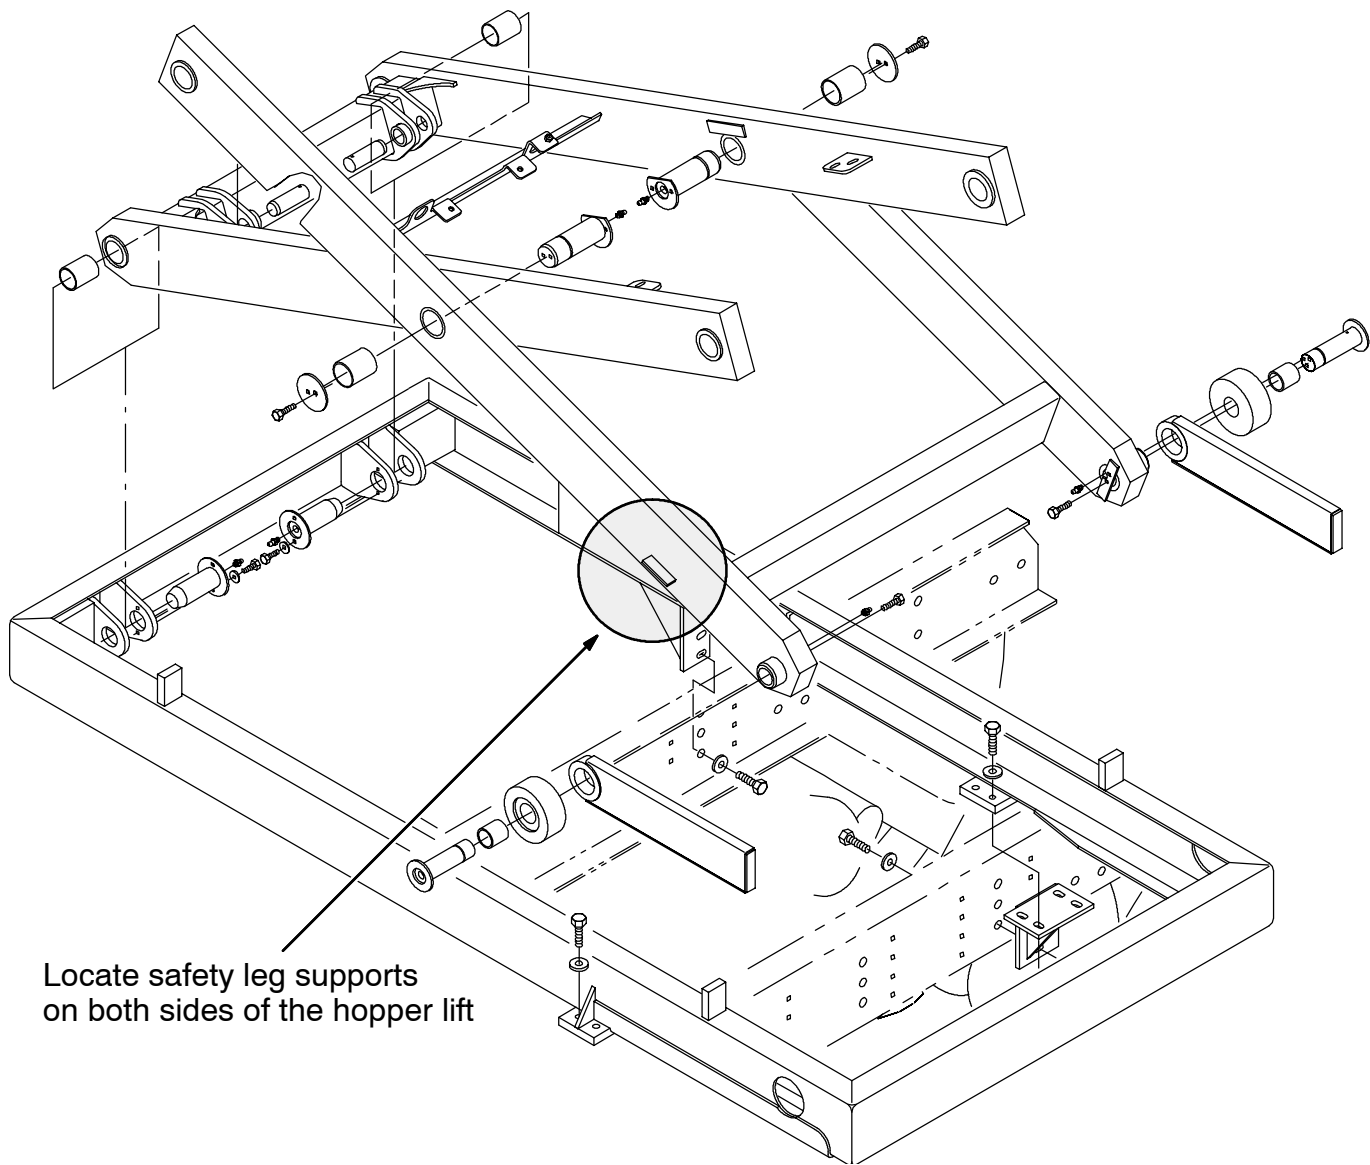
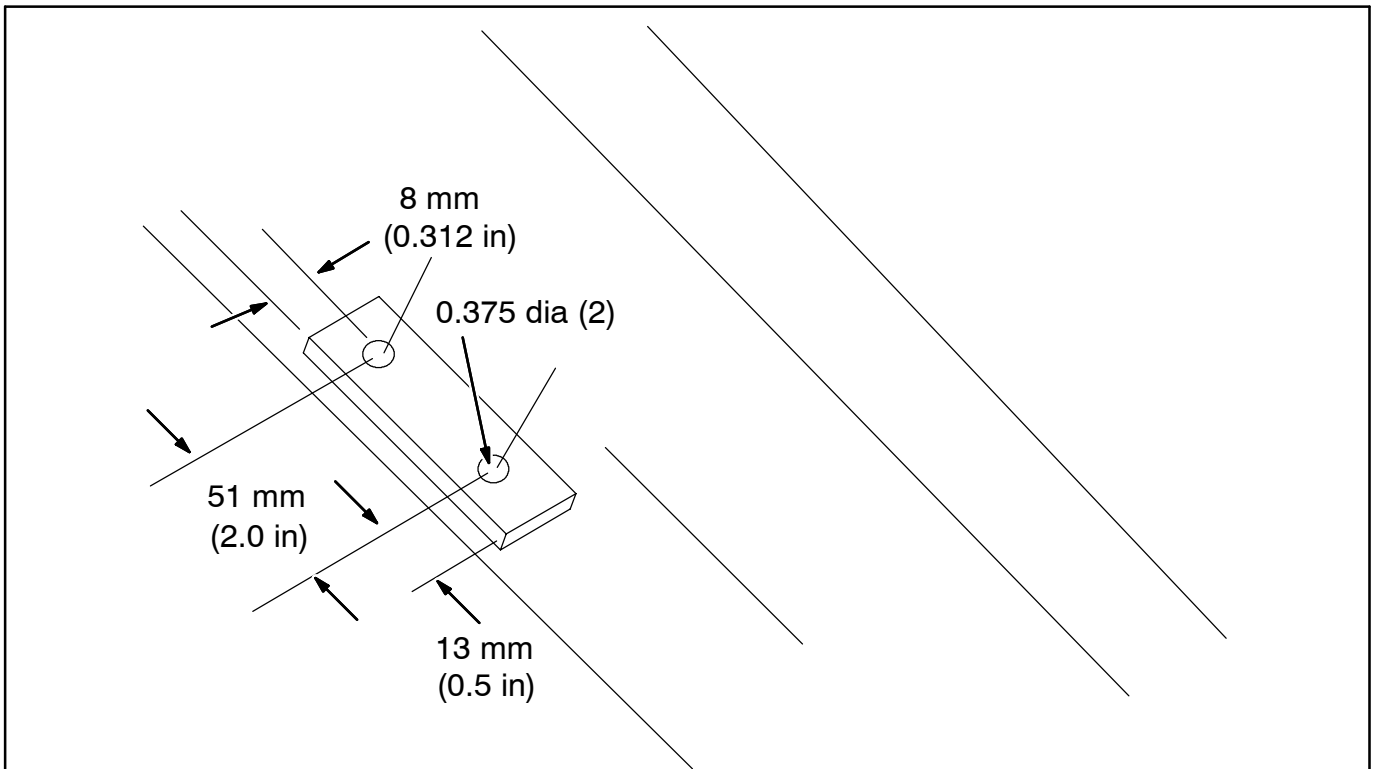

FIG. 1 - Safety Leg Support Location
FIG. 2 - Safety Leg Support Rework
(Refer to FIG. 1, 2 and 3)
1. Locate the front safety leg supports on both sides of the hopper lift frame. (Refer to FIG. 1)
2. Using the dimensions shown in FIG 1, mark and drill two 9.5 mm (3/8 in) dia. holes in the safety leg support. (Refer to FIG. 2)
4. Repeat the second support block (2) installation on the second safety leg support on the opposite side of the hopper lift. (Refer to FIG. 1, 2 and 3)